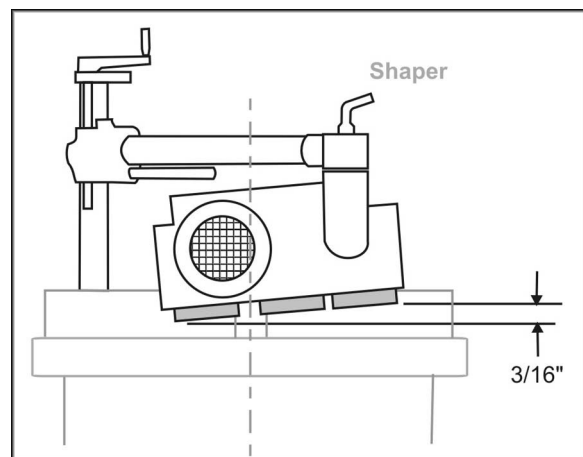

Figure 17
- When the Stock Feeder is in edgewise position, it must be inclined slightly towards the work table in the direction of feed, to ensure the workpiece remains forced down against the table. In other words, the outfeed roller should be approximately $3/16''$ closer to the work table than the infeed roller. See Figure 17.
- When the Stock Feeder is in the edgewise position, or angled for a beveled workpiece, the axis of the cutter should be between the outfeed roller and the center roller. See Figure 17. The center roller should NOT be directed toward the opening between the fences, but should act directly against the fence.